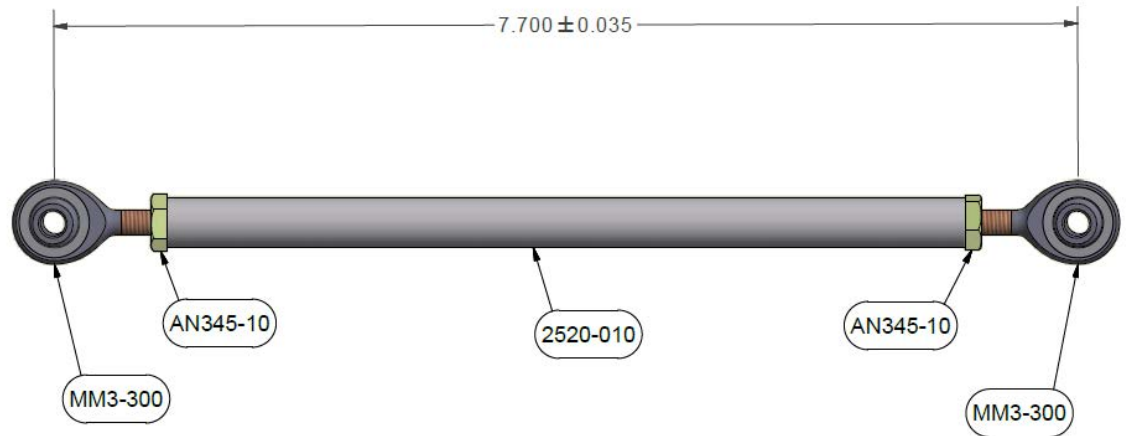

Figure 2-20
- 1.33. Assemble the pitch pushrod assembly as shown in Figure 2-20. Apply blue threadlocker (Loctite 242 or equivalent) to rod ends and torque